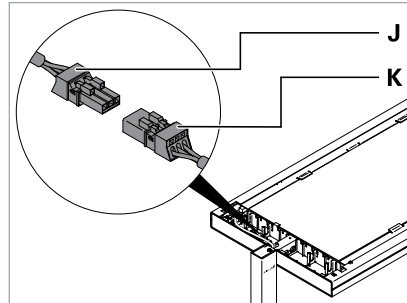

Fig. 5: Connecting the luminaire head, Part 2.
- ▶ Connect the socket **J** to the plug **K** at the luminaire head, see Fig. 5.